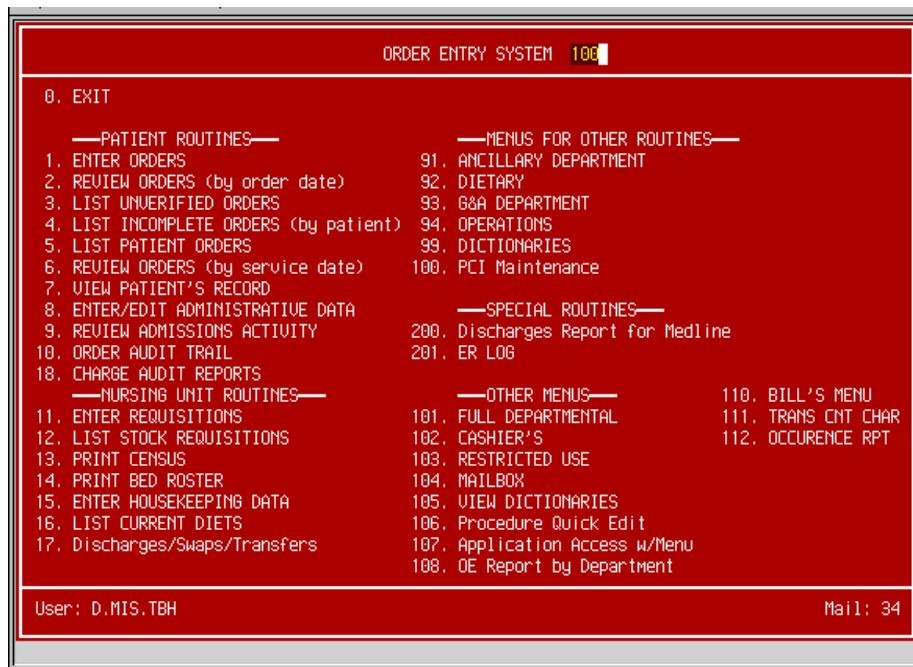

Figure 7: PCI Maintenance
9. From the Order Entry System, select option 100, [PCI Maintenance]. See Figure 7.